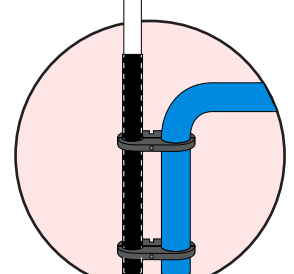

Fig 8.
9. Mount the pole into the ground socket ensuring that the the pole reaches the bottom of the ground socket. (see fig 8)